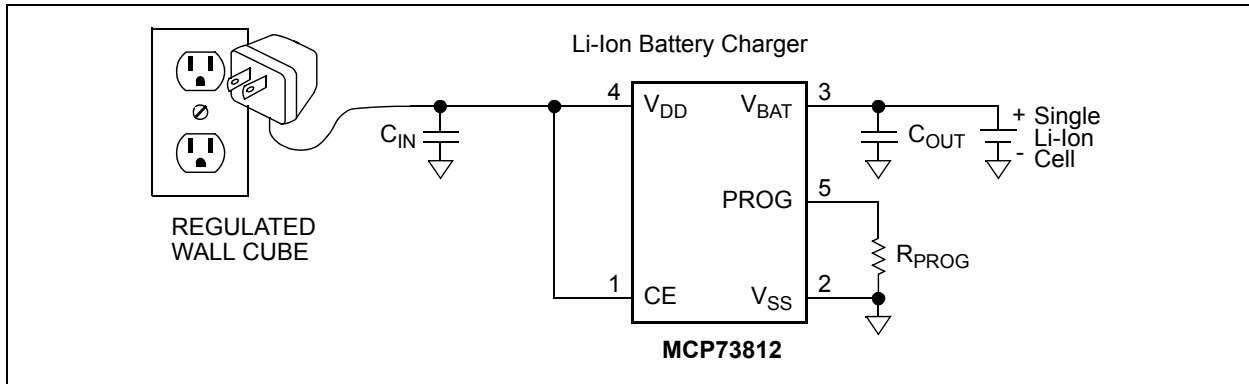
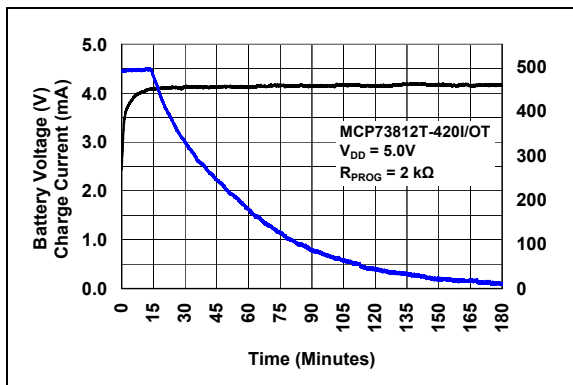

FIGURE 6-1: Typical Application Circuit.
FIGURE 6-2: Typical Charge Profile (950 mAh Li-Ion Battery).
charge algorithm for Lithium-Ion and Lithium-Polymer cells Constant-current followed by Constant-voltage. Figure 6-1 depicts a typical stand-alone application circuit, while Figures 6-2 depict the accompanying charge profile.
Selection of the external components in Figure 6-1 is crucial to the integrity and reliability of the charging system. The following discussion is intended as a guide for the component selection process.
5. Replaced Figure 6-2 with new plot and changed figure caption.